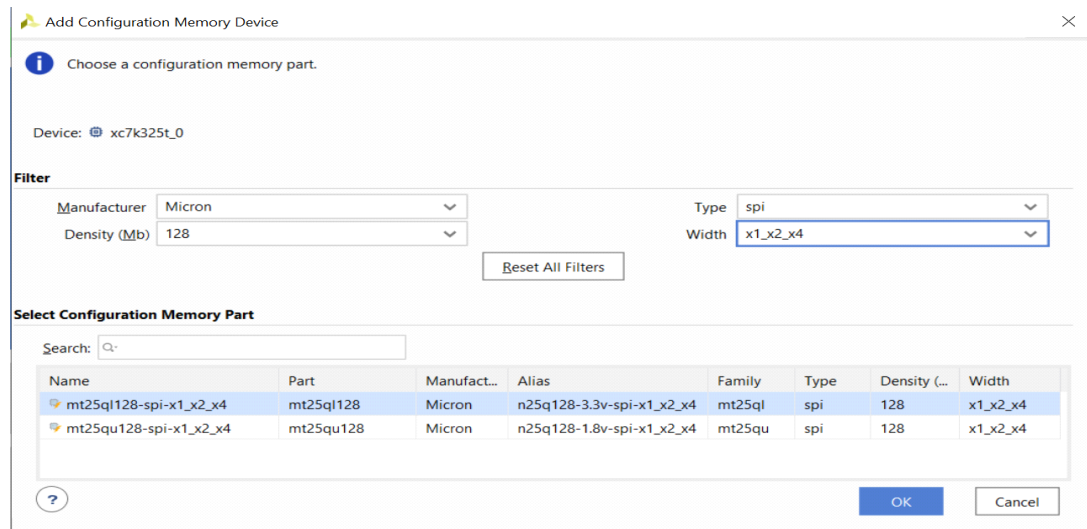

Figure 13: Add Configuration Memory Device
- In the Add Configuration Memory Device window, select the proper SPI flash from the list. The filter options and the search field can both be used to simplify the search and narrow down the options as shown in Figure 13. Click **OK**.